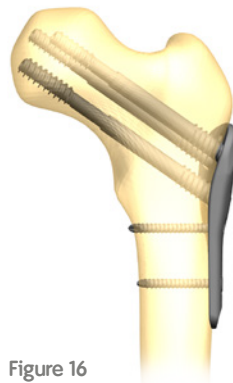

Figure 16
24. Following Superior Screw Insertion, measure for calcar Proximal Screw length by reading the calibrations on the Proximal Screw Tap - Compression against the back of the Proximal Locking Screw Drill Guide (Figure 16). This measurement corresponds to the 8.5mm Proximal Screw length.